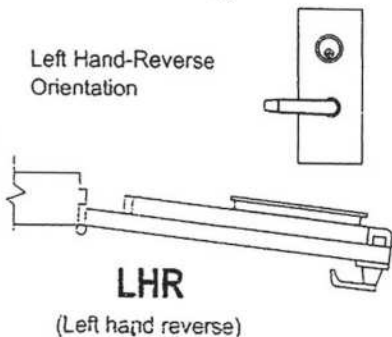

Fig5
1. DETERMINE HANDING OF DOOR AS LHR OR RHR AND ROTATE LEVER TO CORRESPONDING POSITION. (SEE FIGURE 5 AND 6).